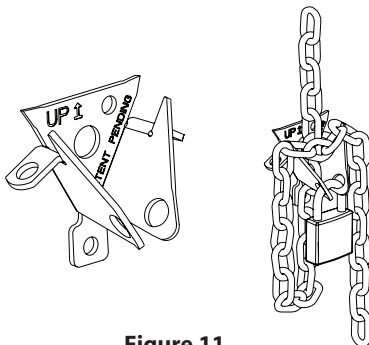

Figure 11
- 5) Loop chain around keeper as shown. **Fig. 11.** Optional Padlock not provided.